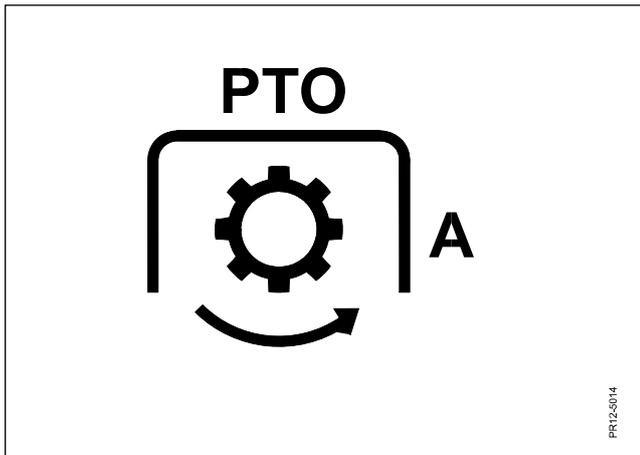

Fig. 2-1
- Fig. 2-1** The machine is constructed for a PTO speed from the tractor of **1000 rpm** and are intended for tractors where the direction of rotation is counter clockwise **A** when looking towards the front of the tractor.